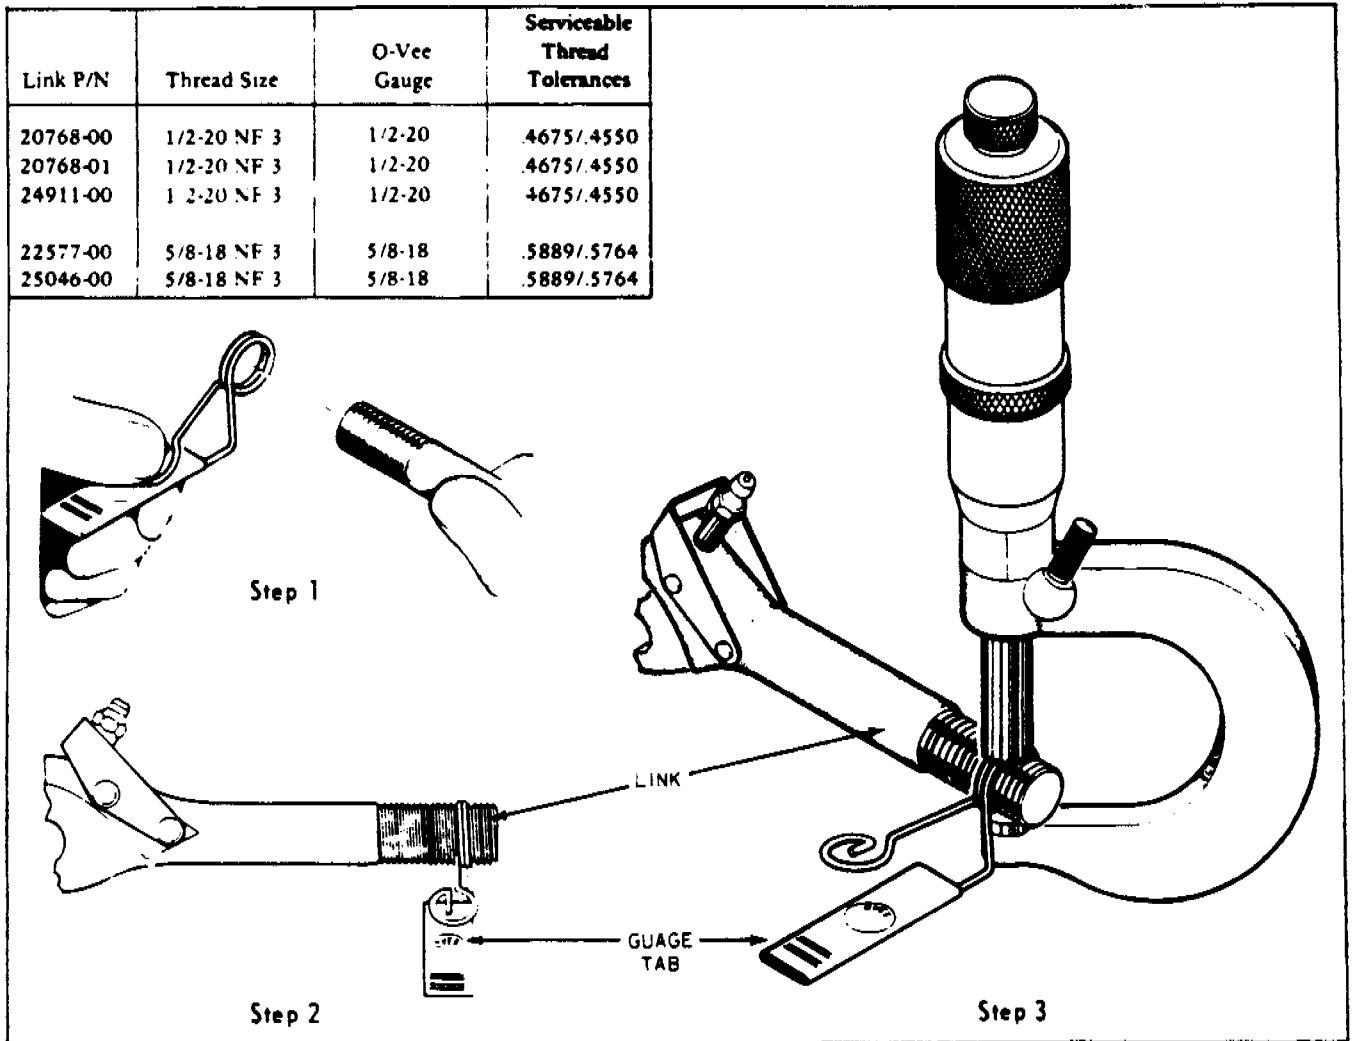

FIGURE 6-8c. MAIN GEAR SIDE BRACE LINK TOLERANCE
6-32a. Inspection Of Main Gear Side Brace Links and Rod End Bearings. (Refer to Figure 6-8c.)
1. It will be necessary to obtain a special O-Vee gauge (refer to table included in Figure 6-8c for the specific size gauge to order). This gauge can be purchased from the O-Vee Gauge Company, P. O. Box 43271, Los Angeles, California 90043, and a micrometer (see sample order below).
2. The advantage of using the O-Vee gauge is in its simple three steps, see Figure 6-8c.
4. If the link is worn less than the tolerances given in the table with Figure 6-8c, it must be replaced.